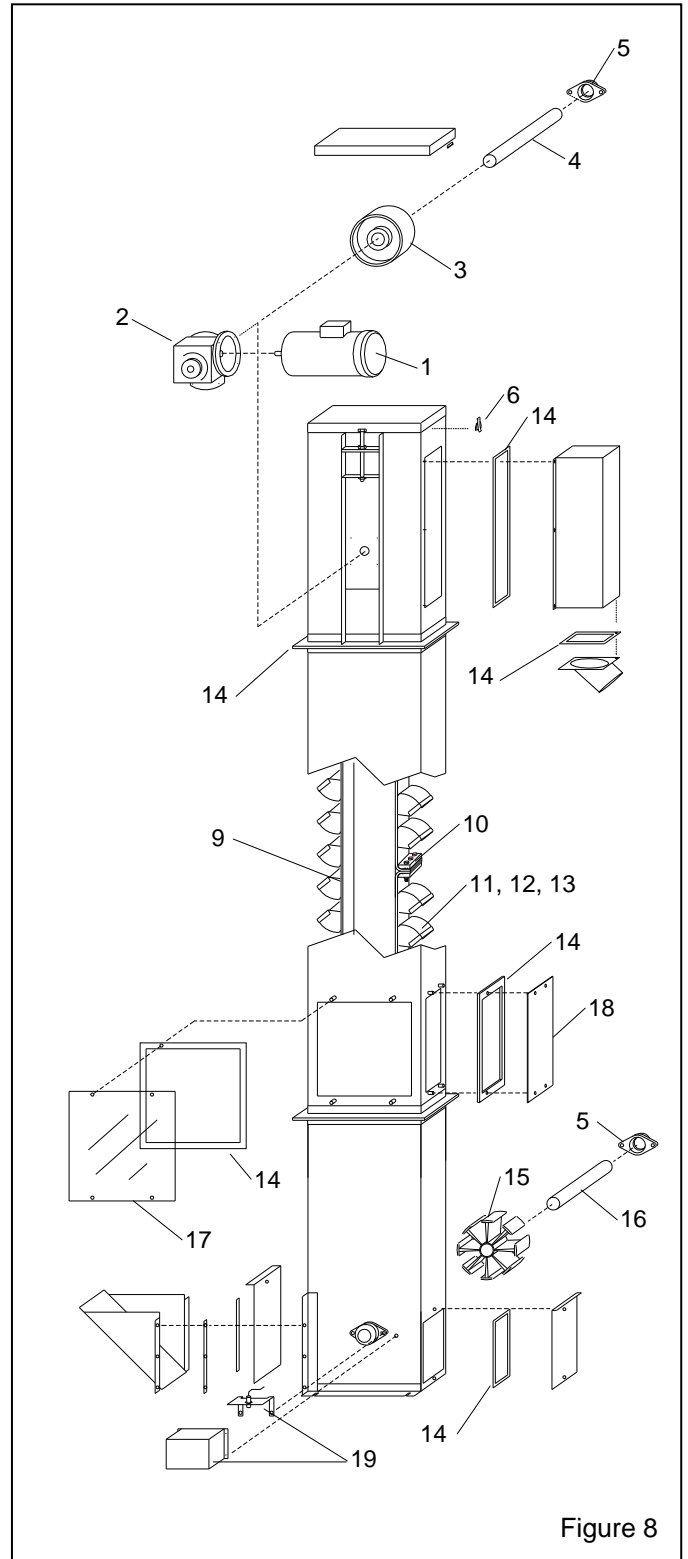

Figure 8
8.1 Bucket Elevator Assembly, Figure 8